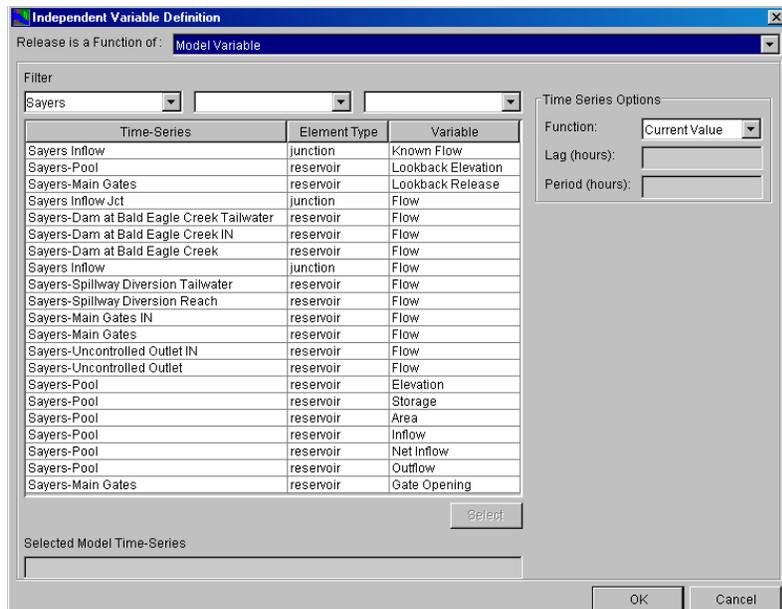

Figure 11.13 Reservoir Editor--Operations Tab: Release Function Rule, Selecting an Independent Variable from the Model Variable List
- If the function type is **Model Variable**, select the independent variable using the **Filter** chooser (Figure 11.13).